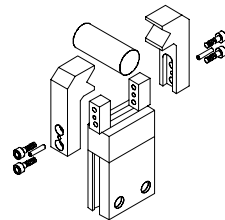

Fig. 10
- Screw two fastening screws into the threaded holes of the gripper jaws (see Fig. 10).